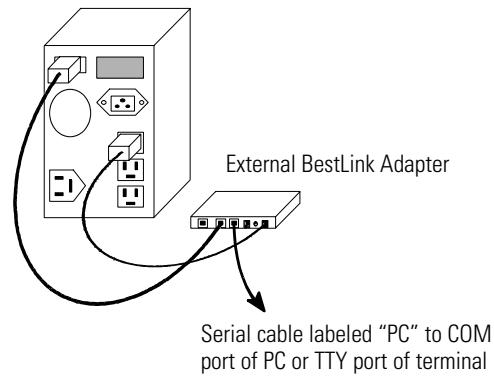

Figure 4. Cable Connection with External BestLink Adapter
1. If configuring an external BestLink Adapter, connect the supplied serial cable labeled "PC" to the PC port on the BestLink Adapter (see Figure 4).